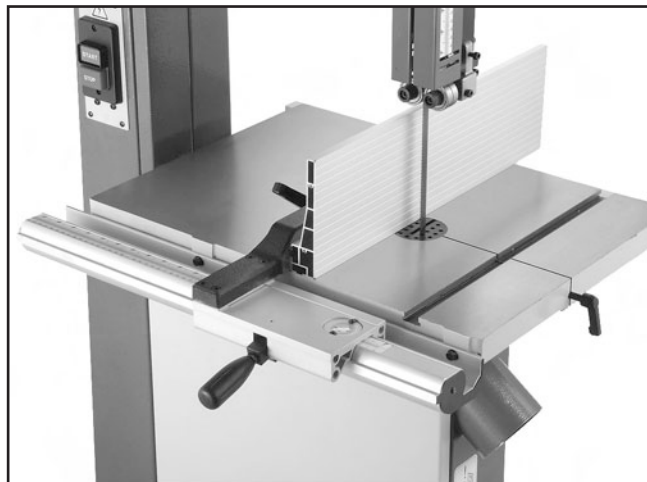

Figure 26. Correctly installed fence.
- Pull the fence handle up and place the fence assembly on the fixed rail as shown in **Figure 26**.